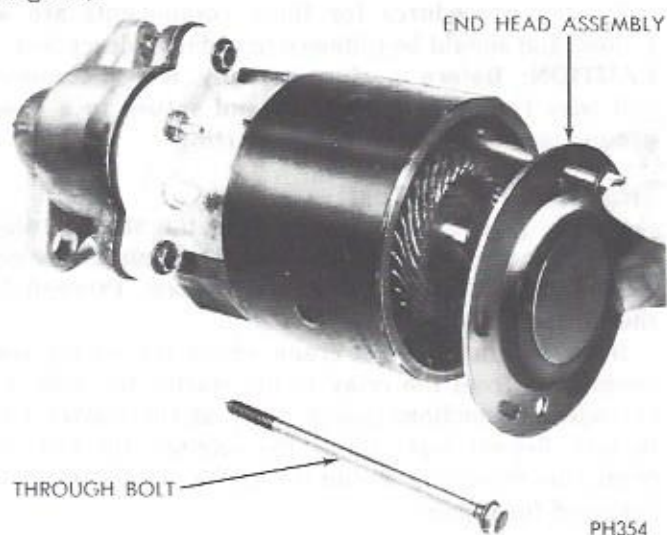

Fig. 4—Removing Through Bolts
- (1) Remove through bolts and end head assembly (Fig. 4).